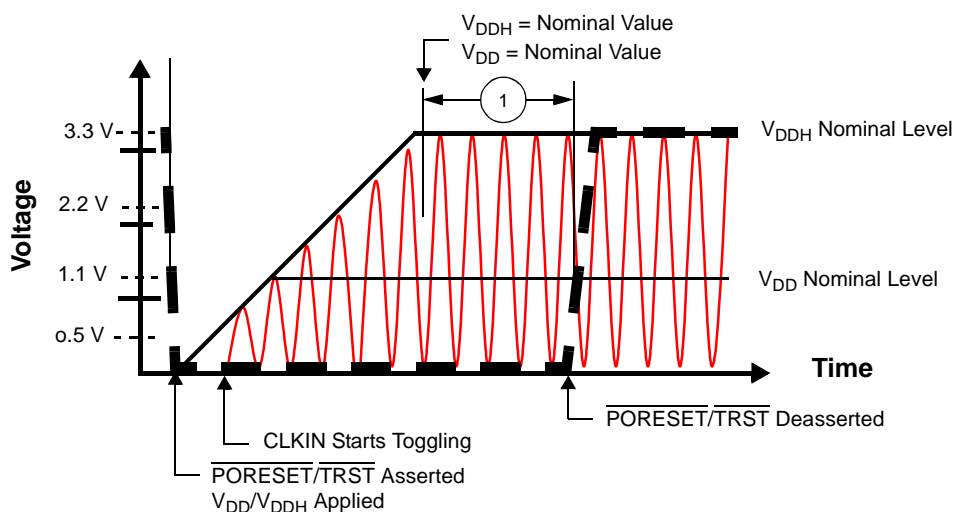

Figure 6. Start-Up Sequence: V_{DD} and V_{DDH} Raised Together
- CLKIN should start toggling at least 16 cycles (starting after V_{DDH} reaches its nominal level) before $\overline{\text{PORESET}}$ deassertion to guarantee correct device operation (see **Figure 6** and **Figure 7**).
The following figures show acceptable start-up sequence examples. **Figure 6** shows a sequence in which V_{DD} and V_{DDH} are raised together. **Figure 7** shows a sequence in which V_{DDH} is raised after V_{DD} and CLKIN begins to toggle as V_{DDH} rises.